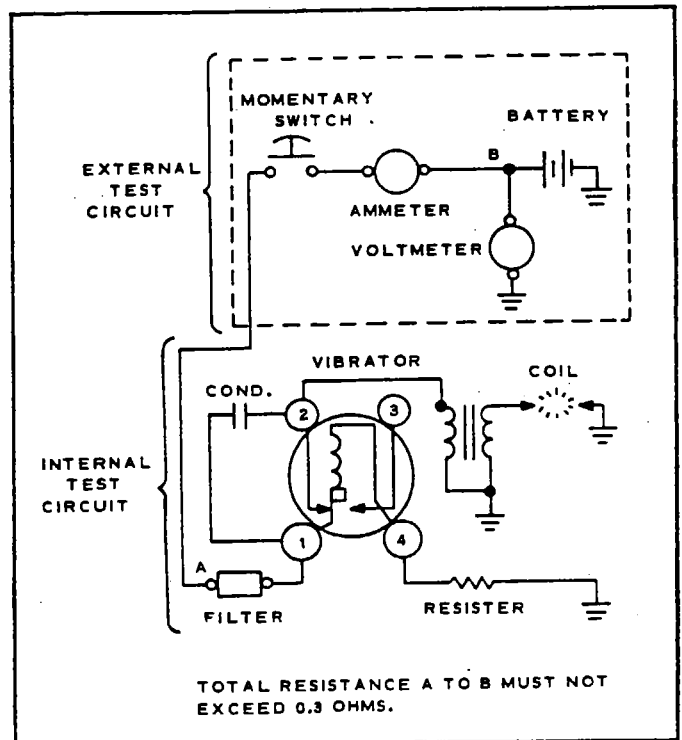

Figure 13-10. Wiring - Test Setup
- f. Arrange the test equipment as shown in Figure 13-10.